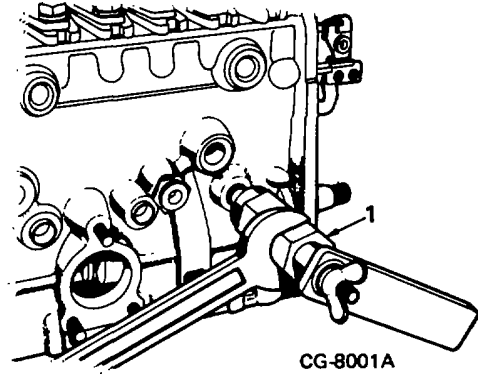

Figure 19. Removing Side Plugs
- 15. Assemble side puller KDEP 1056 to plug (Figure 19). Remove side plug by inserting collet jaws into side of plug. Tighten wing nut until jaws grip plug. Hold handle and turn shaft with a 27 mm wrench until plug is free. Repeat for other two plugs.